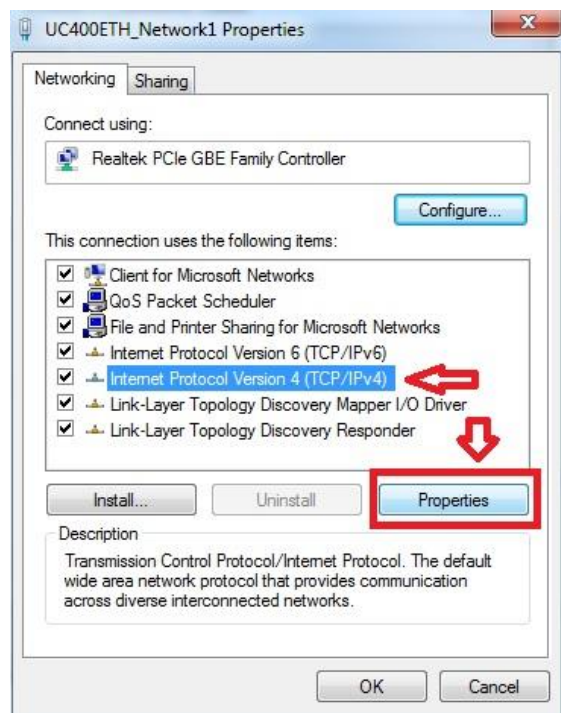

Figure 30: IPv4 Properties
- 6- On the popup window find and select the 'Internet Protocol Version 4(TCP/IPv4)' row and click the Properties button. See Figure 30.